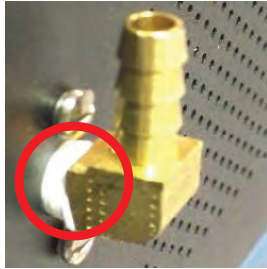

FIGURE 5. Thread Tape on Fitting.
1. Before installing the fitting onto the back of the dehydrator, first apply Teflon® thread tape (or compatible thread sealant) around the threads of the fitting you will be using. Refer to Figure 5.